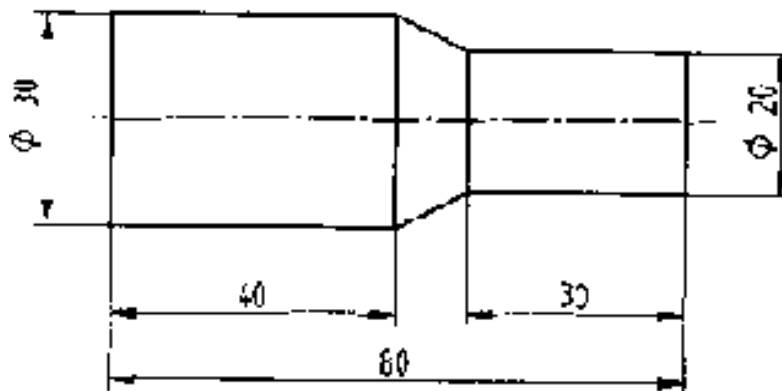

figure 1
6. a) Write a part program for the component shown in figure 1 9M